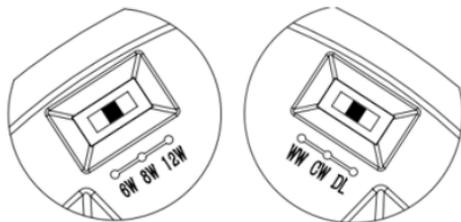

Fig. 2
- Select the required colour temperature and wattage via the three-position switches on the rear of the luminaire (see Fig. 2)